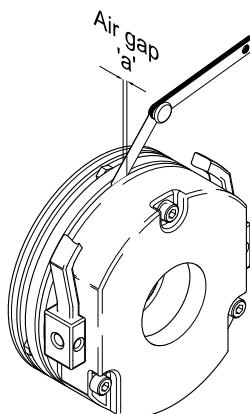

Figure 69 – Checking Hoist Brake Air Gap
The air gap 'a' (between the stator (5) and the armature plate (1)) should be checked in at least three positions around the circumference of the brake using non-magnetic feeler gauges (see Figure 69). The air gap should not exceed the maximum air gap figure given in the above table.